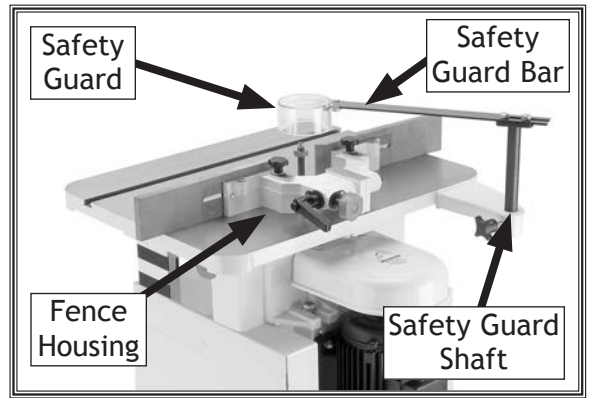

Figure 11. Guard and fence assembly.
9. Connect the safety guard bar to the safety guard shaft with two M8-1.25 x 12 bolts and the 8mm flat washers. See **Figure 11**.
10. Connect the safety guard to the safety guard bar with two M4-0.7 x 12 Phillips® head screws and the M4-0.7 nuts. See **Figure 11**.
11. Position the extension bar and safety guard on the main fence housing and install the T-lock handle. See **Figure 11**.